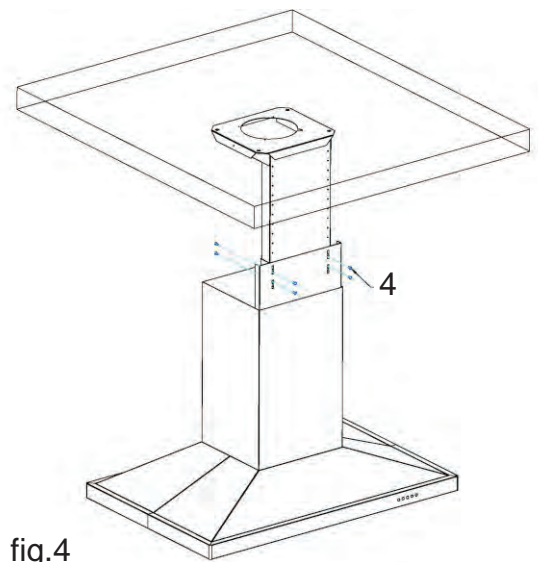

fig.4
**Step four:** Attach the duct to the top of the back draft damper. Place the chimney sections over the lower bracket section and on top of the main unit. Pull the plug to the top of the chimney sections. Attach lower bracket to upper bracket at desired height using screws provided. fig.4